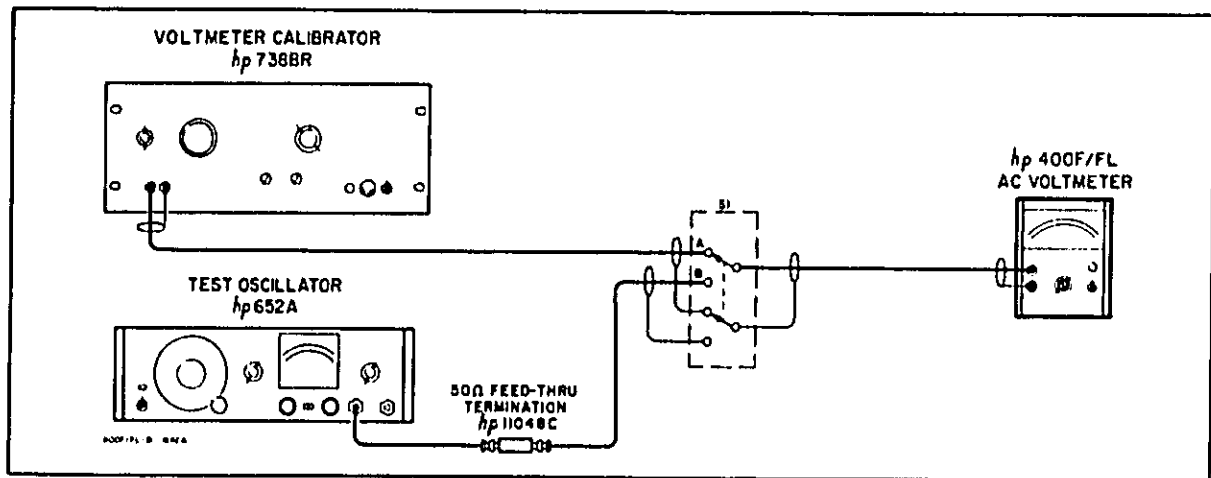

Figure 5-1. Accuracy and Frequency Response Test Setup.
5-10. Figure 5-1 shows the test setup for using the -hp- 652A and -hp- 738BR combination. If the -hp- 3320B is used, it directly replaces the -hp- 652A in Figure 5-1.
- Connect the voltmeter calibrator, test oscillator, and 50 ohm termination to the Model 400F/FL as shown in Figure 5-1. An external switch, S2, may be used to facilitate switching from one test instrument to the other.
5-16. After verifying the 400F/FL full scale calibration with the accuracy and frequency response tests, check the range tracking of the instrument with the following procedures. Use the test setup shown in Figure 5-1 for the range tracking check.
5-32. The following procedures are used to adjust the gain of the meter amplifier on two voltage ranges at five different frequencies. Proper gain adjustments will assure accurate meter indications over the entire voltage and frequency range of the instrument. Use the test setup shown in Figure 5-1 for the meter calibration.